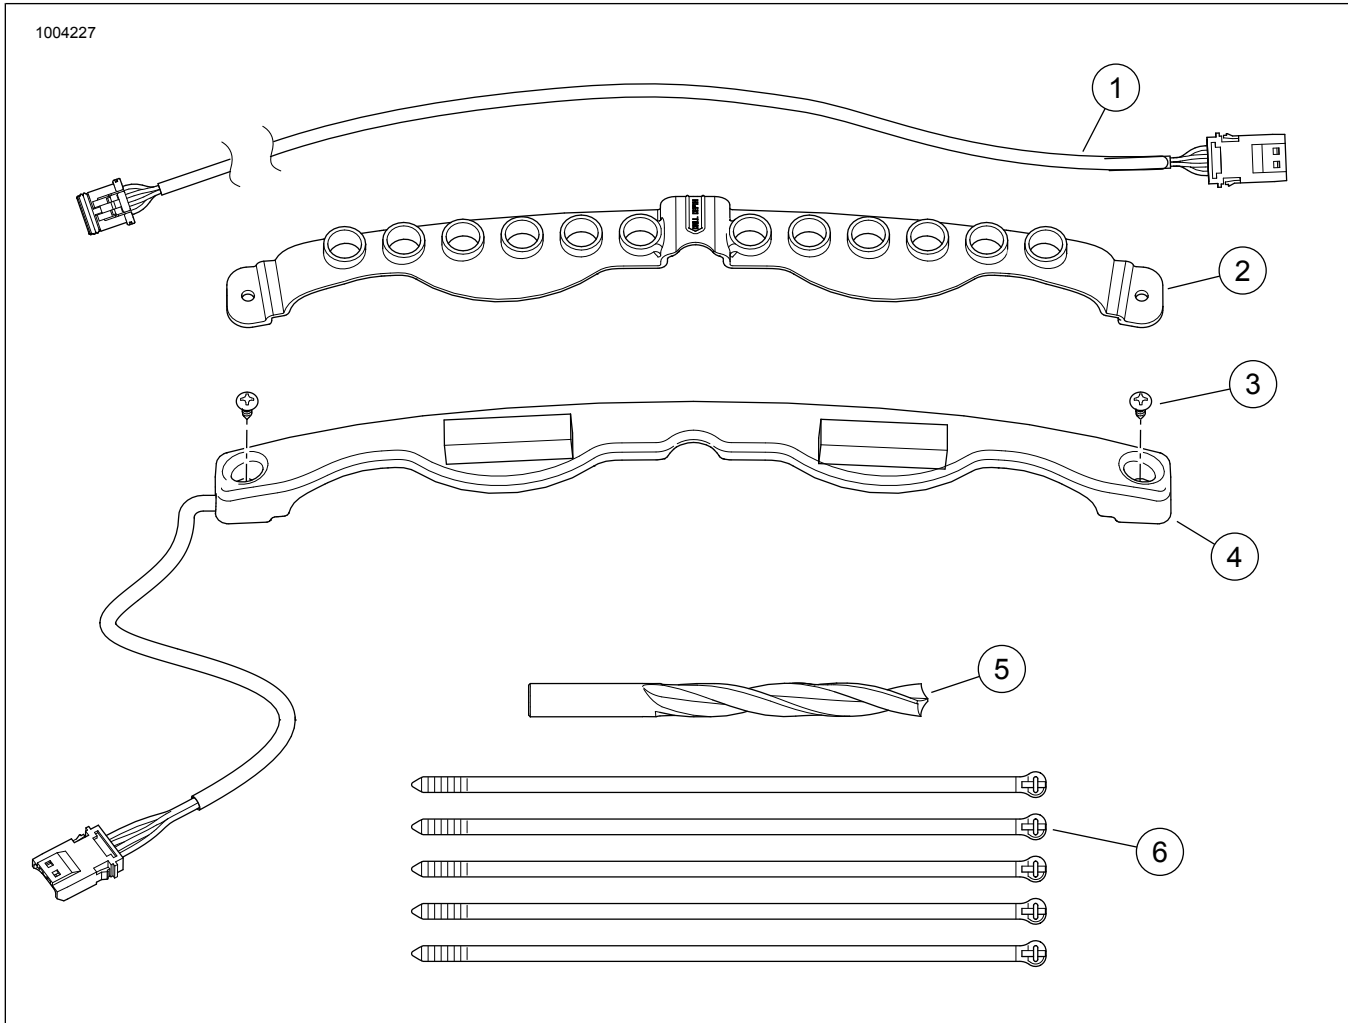

Figure 7. Service Parts, Spectra Glo Light Vent Illumination Kit
See Figure 7. and Table 1.
- See Figure 7. Secure drill template onto fairing vent with two #4 screws (3).
See Figure 7. Connect and route 48-in. harness (1) from LED R/G/B controller through the wire trough and up the back bone.